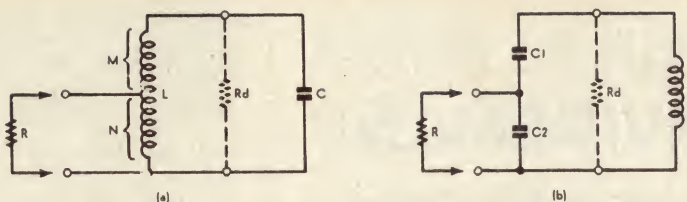

Figure 3: A comparison of the (a) inductive, and (b) capacitive tapping methods.
Probably the reader will be more familiar with the tapped inductor method of transforming impedance, as shown in figure 3(a). This method is frequently used where a relatively low impedance circuit has to be coupled into the resonant circuit without causing it undue disturbance or damping its resonance behaviour. The position of the tap on the inductor is chosen to provide the desired impedance step-up ratio. The lower the position of the tap, the greater the extent to which the impedance of the circuit connected to the terminals is stepped up, as far as the resonant circuit is concerned.
It turns out that the impedance transforming ratio obtained with the capacitive divider system follows a similar "squares" relationship to that obtained with the inductive divider. Thus in figure 3(b), the effective resistance Rd connected across the resonant circuit is related to the actual resistance R connected across the terminals by the equation:
capacitive divider works in both directions. It can step down impedance as well as stepping it up. Thus if an actual resistance R_d were to be connected right across the inductor L in figure 3(b), instead of a resistance R across the terminals, then the action of the capacitive divider would be such that a circuit connected to the terminals would "see" an effective input resistance of value R . In other words we can quite validly rearrange equation (2) to read:
across C_2 of figure 3(b), not only does an effective resistance of value R_p appear across capacitor C_1 .